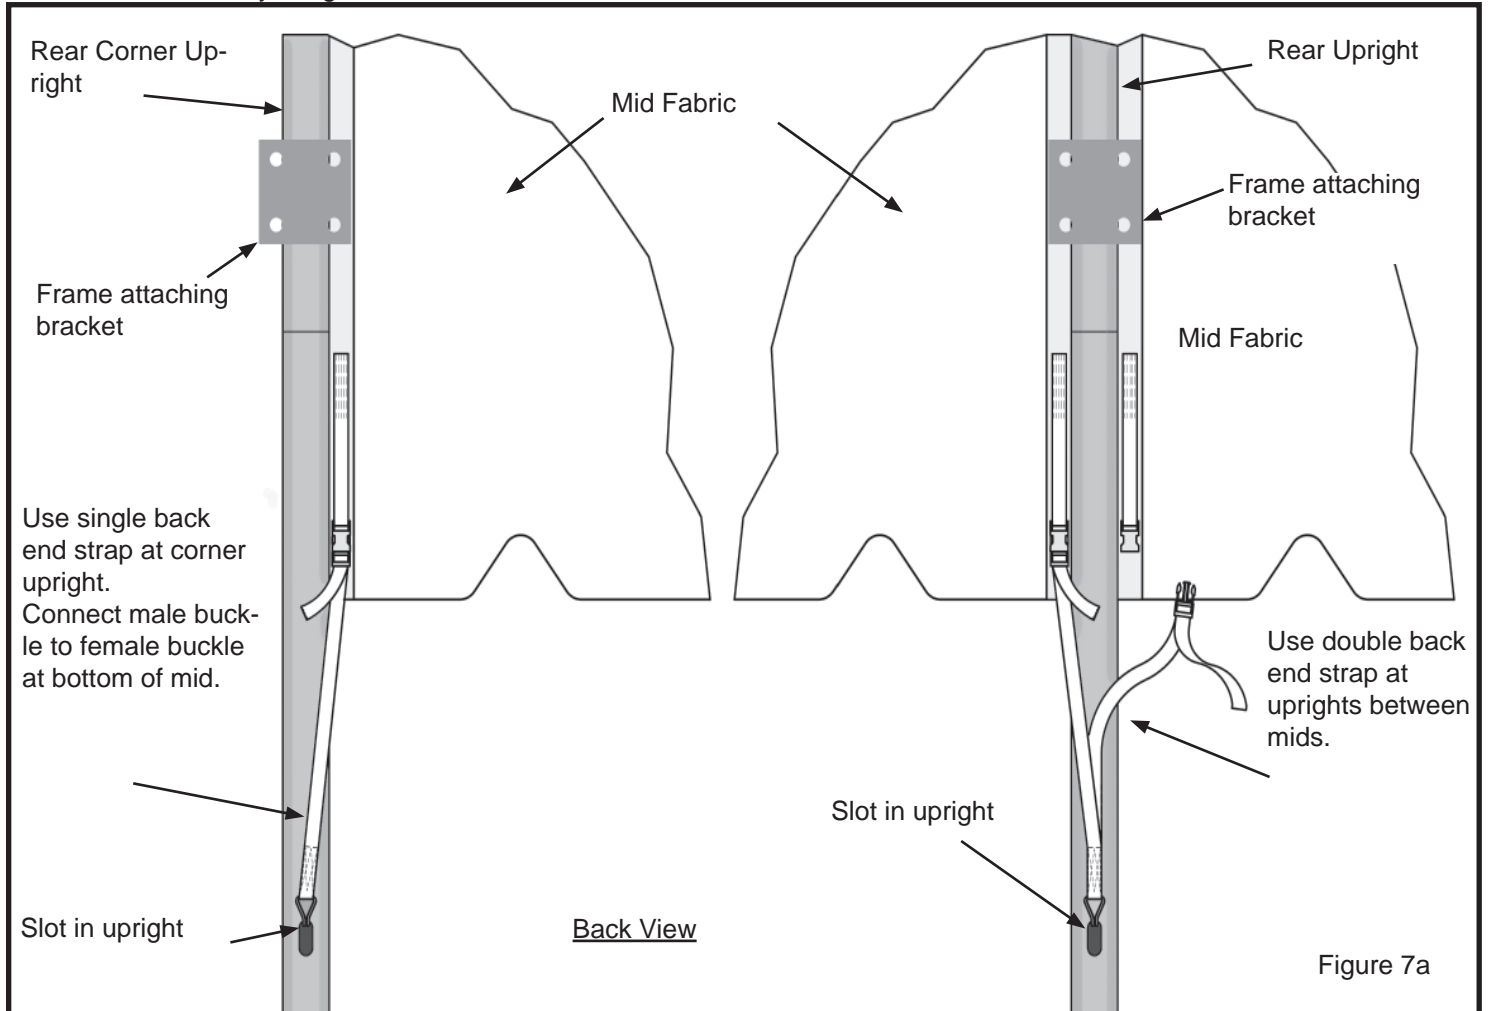

Figure 7a
- At back of pavilion, snap buckles of back-end straps to corresponding buckles at bottom of mids. Insert bottom hook into slot at back of upright. Tighten just enough so that hook does not fall out of slot. (Figure 7a)